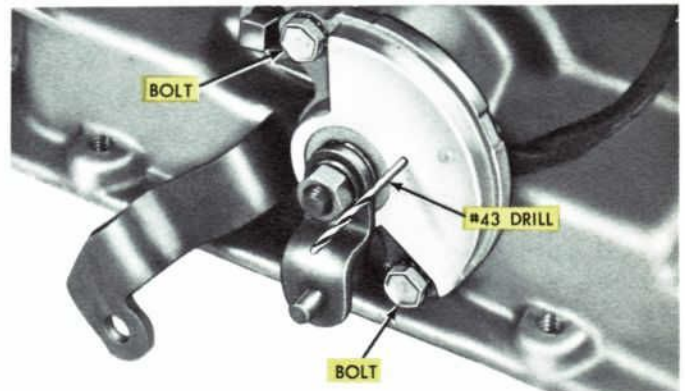

Fig. 91—Neutral Start Switch
- ① Loosen the switch retaining bolts (Fig. 91).